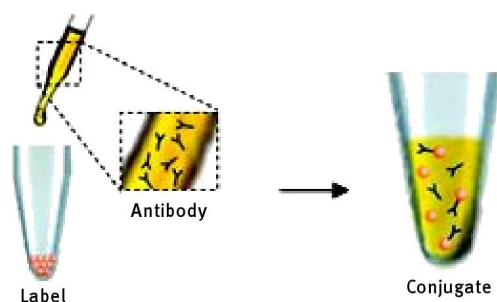

Figure 1
**Background:** The Link-A-Light conjugation kit allows Fluorescent conjugations to set up in *seconds*, simply by adding a solution of the antibody to be labeled to a proprietary lyophilised mixture containing a proprietary activated Fluorescent Ligand (Figure 1). By circumventing the desalting or dialysis steps that commonly interrupt traditional protein conjugation procedures, Link-A-Light technology can be used to label small quantities of protein (see Principle).